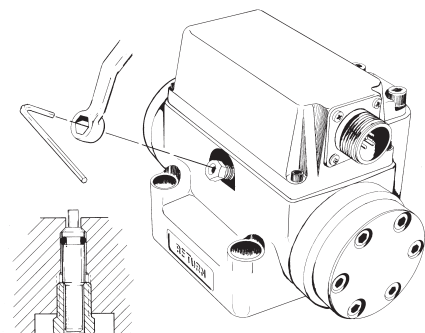

Figure 2
It is often desirable to adjust the flow null of a servovalve independent of other system parameters. The "mechanical null adjustment" on the Moog (G)72K Series servovalve allows at least $\pm 20\%$ adjustment of flow null. The "mechanical null adjustor" is an eccentric bushing retainer pin, located above the tank port designation on the valve body (see Figure 2) which, when rotated, provides control of the bushing position. Mechanical feedback elements position the spool relative to the valve body for a given input signal. Therefore, a movement of the bushing relative to the body changes the flow null.